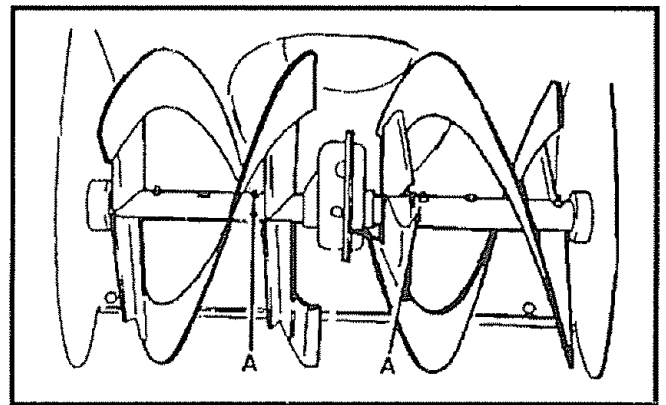

FIG. 16
- Auger Shaft - Using a hand grease gun, lubricate the auger shaft zerk fittings (See A, Fig. 16) every ten (10) operating hours. Each time a shear bolt is replaced (see To Replace Auger Shear Bolt on page 22), the auger shaft MUST be greased